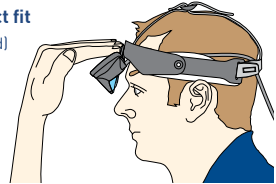

Fig 4. Correct fit
**Fig. 4 Correct fit (firm headband only):** To set the goggles as close as possible to your eyes without the housing touching your forehead, adjust the inner headband angle (position on your forehead) and then pivot the outer band for correct display alignment.